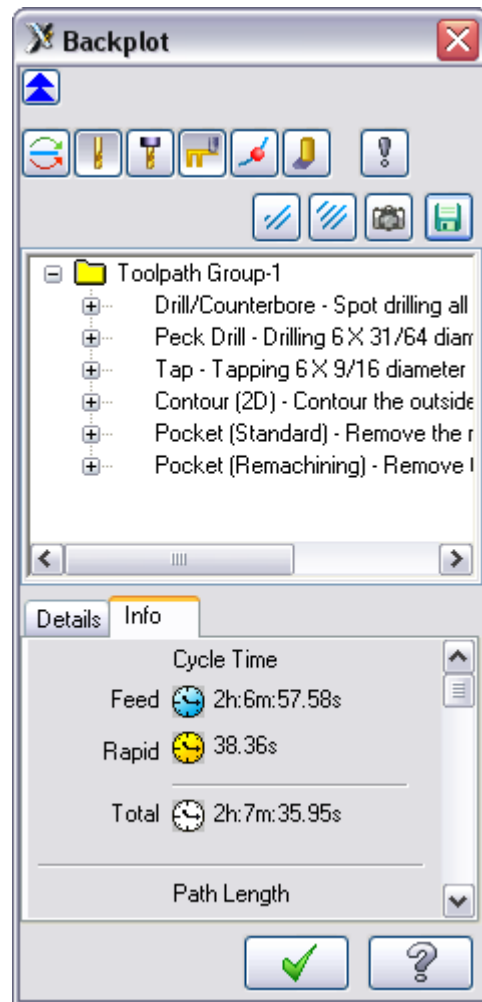

Figure 1: Total cycle time displayed in Backplot Info tab.
3. Estimate the total machining time by clicking on the "Backplot" button, and then selecting the "Info" tab as shown in Figure 1. If the backplot tabs are not visible, click on the upper left icon (with two blue down arrows) to expand the backplot dialog box. Write down the number or print out the screen.